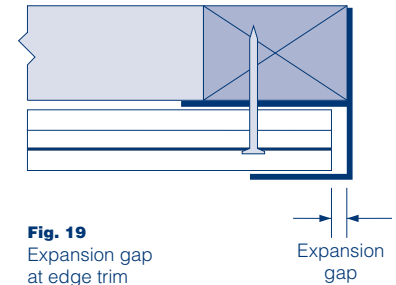

Fig. 19
- Allow a 4mm clearance at each end for expansion for white profiles and 8mm for foiled and coloured cladding (where joint covers are used, their spacing lugs will automatically provide 4mm clearance between adjacent plank lengths). See figure 19.